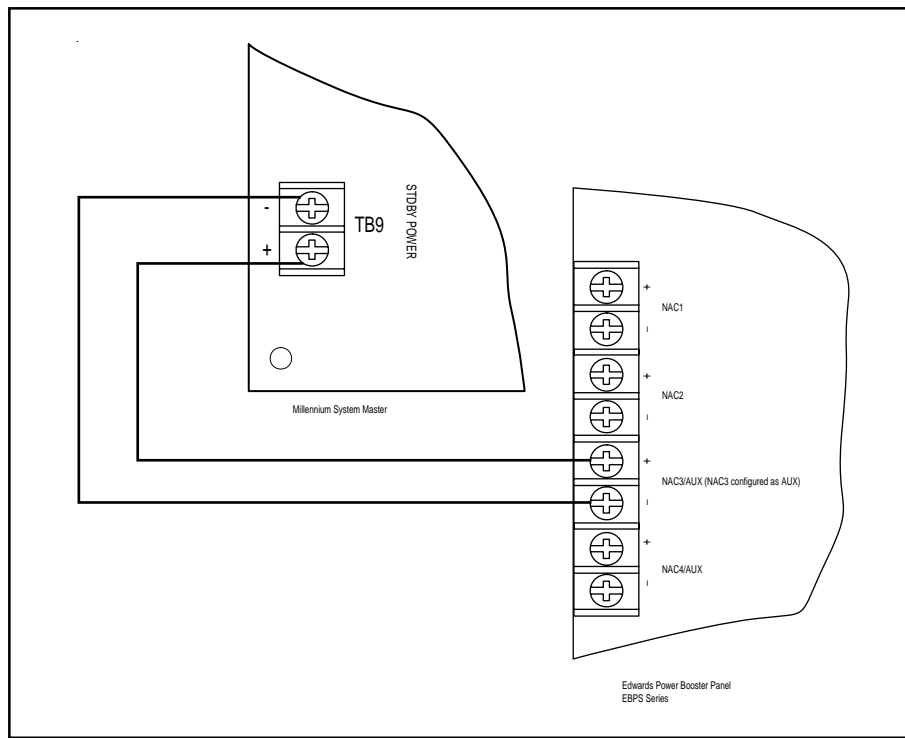

Figure 5. Connecting to an Auxiliary Booster Power Supply
- ☐ **Connect Standby power.** See Figure 5 and Appendix D or the panel label. **NOTE:** When the System Master is used with a fire alarm panel, Standby Power **MUST** be installed and enabled.